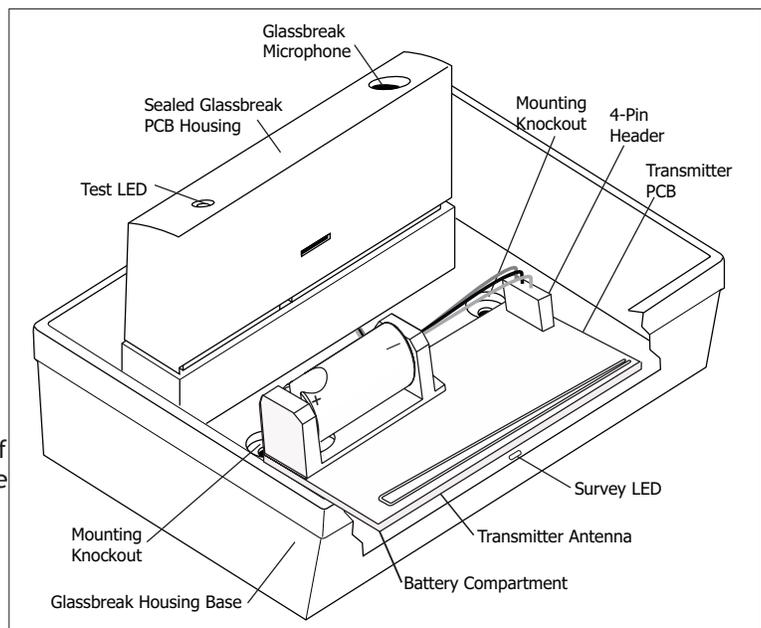

Figure 3: Glassbreak PCB in the Housing
3. Place the 3.0V Lithium battery in the battery compartment as shown in Figure 3 and press into place.